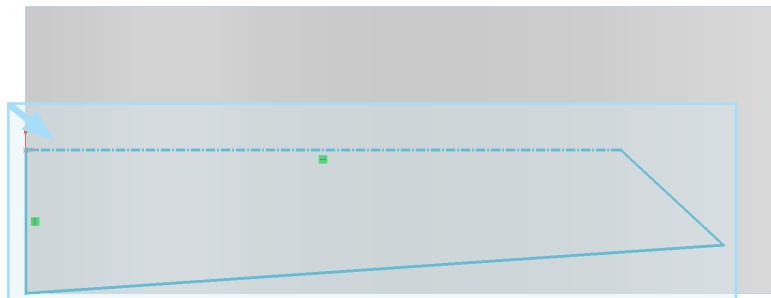

Fig. 11
Step 8. Drag a selection to select all geometry, Fig. 11.